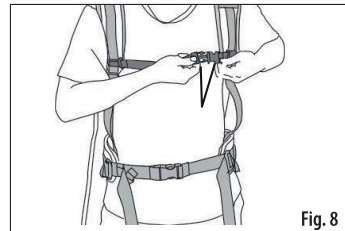

Fig. 8
3. Snap the chest buckle and adjust its length if necessary (Fig. 8).